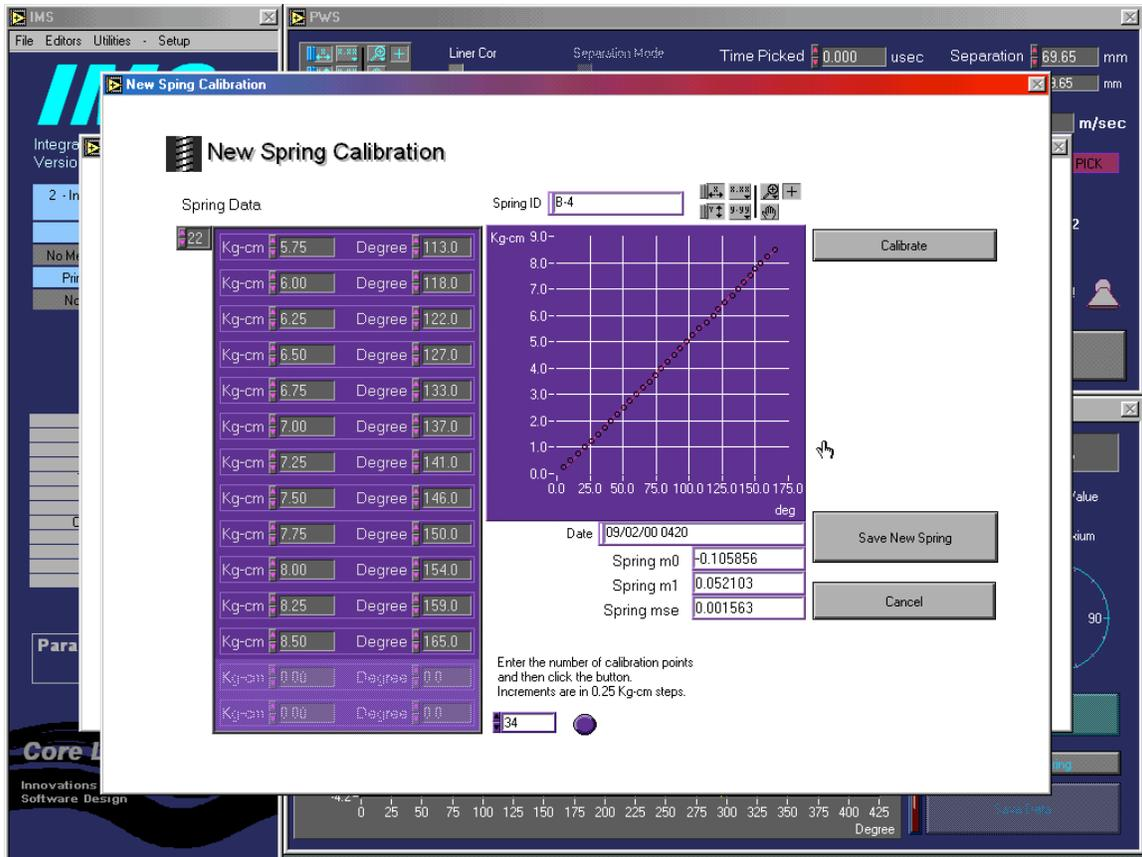

Figure 15. New Spring Calibration.
- Click ADD NEW SPRING TO LIST; You will be asked to enter the name of a spring (usually the serial number) and this will bring up the New Spring screen (Figure 15).